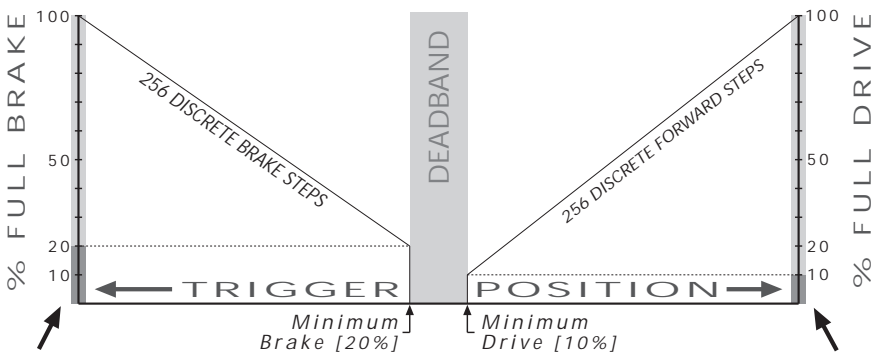

Figure 4: Graphical representation of Minimum Drive and Minimum Brake as percentage of Full Drive and Full Brake, respectively.
- Amount of Drive applied with the first pulse of transmitter throttle information (Figure 4).